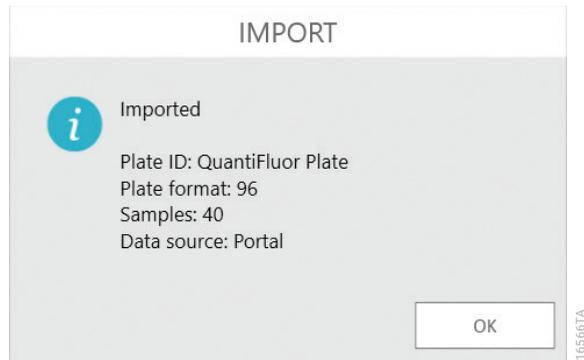

Figure 45. 'Import' screen. The 'Import' screen displays a summary of information retrieved from the Portal software.
7. Tap the **Import** button to import the plate map retrieved from the Portal software and open the Plate View tab. An ‘Import’ screen is shown, summarizing the results of the plate import including the Plate ID, plate format and number of samples retrieved (Figure 45). Tap **OK** to dismiss the ‘Import’ screen.